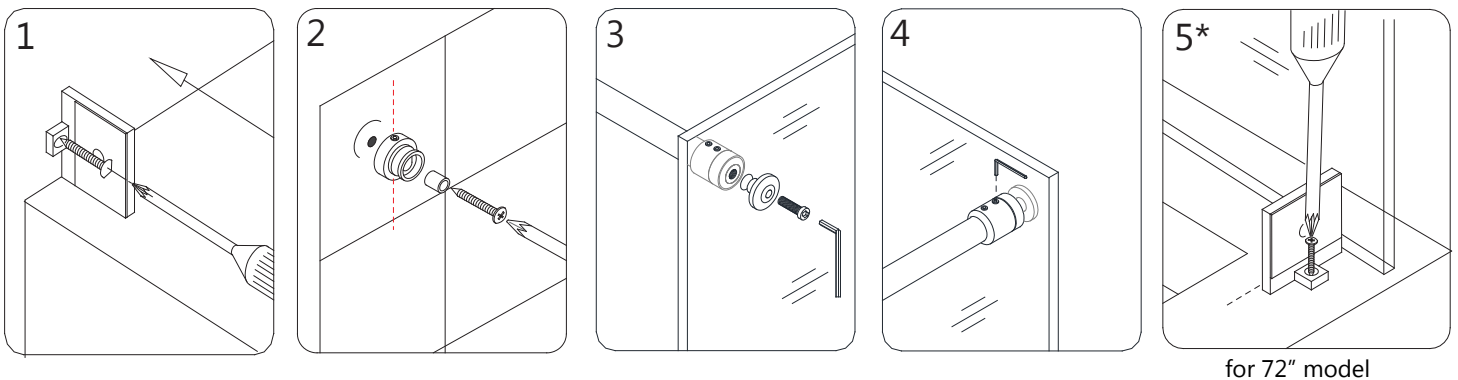

Fig 17
17. Fasten the **Wall Bracket (#19)** to the wall using the **ST4.2x55 Truss Head Screw (#18)**. (Fig 17.1) **For the 72" model,** repeat this step to attach the **Wall Bracket (#19)** for the **Small Stationary Panel Glass (#23)**. Use an **ST4.2x25 screw** into an acrylic base or **ST4.2x40 with an anchor** for tile (Fig 17.5). Attach the base part of one **Guide Rail Bracket (#08)** to the wall using the **ST6x65 Large Truss Head Screw (#10)** (Fig 17.2). Note that the adjustment set screws on the bracket must be aligned vertically for easier access to tighten and adjust for level after the glass is installed. Fasten the **Upper Guide Rail (#03)** to the **Return Panel (#27)**, connecting the sleeve of the **Guide Rail Bracket (#08)** to the **Glass Connector (#28)** (Fig 17.3 and 17.4). Align the set screws vertically and tighten. (Fig 17)